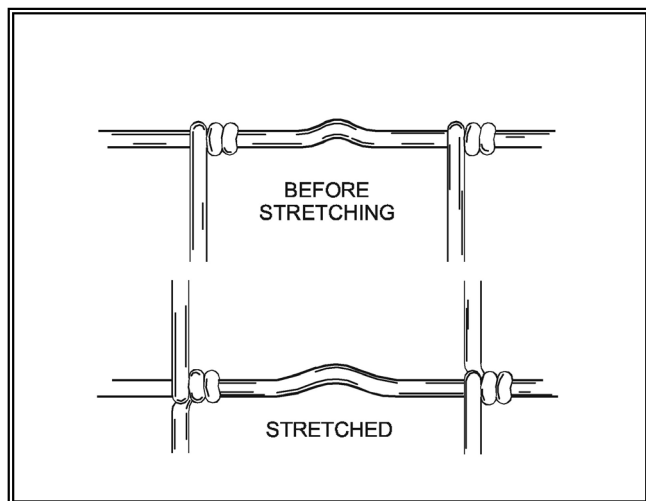

Figure 5 Tensioning Woven wire
- Tension woven wire to remove only 1/3 to 1/2 of the tension curve from the line wires, as shown in Figure 5 below.